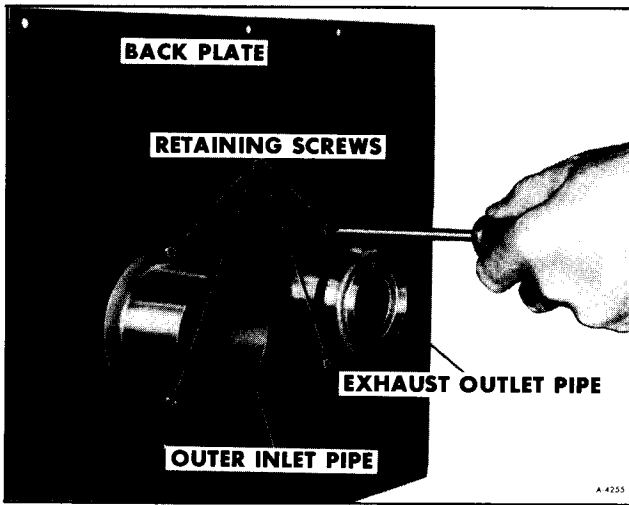
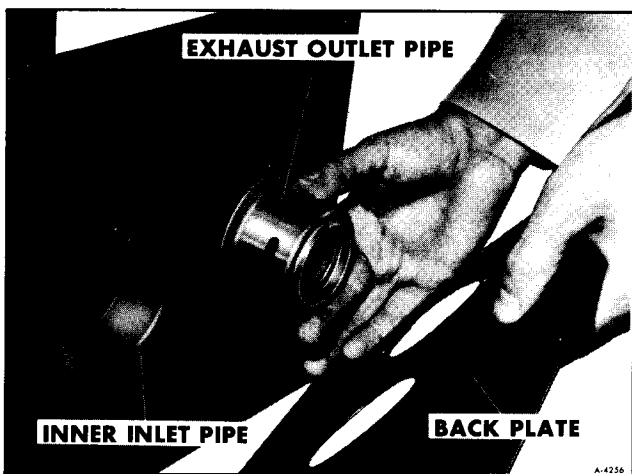

Figure 25—Removing Back Plate Retaining Screws
Figure 26—Removing Exhaust Outlet Pipe
5. Remove back plate retaining screws (See figure 25). Then remove outer inlet pipe and back plate.
6. Remove exhaust outlet pipe and inner inlet pipe (See figure 26).
4. Position inner inlet pipe and exhaust outlet pipe as shown in Figure 26. Place back plate and outer inlet pipe against furnace as shown in Figure 25. Install back plate retaining screws.